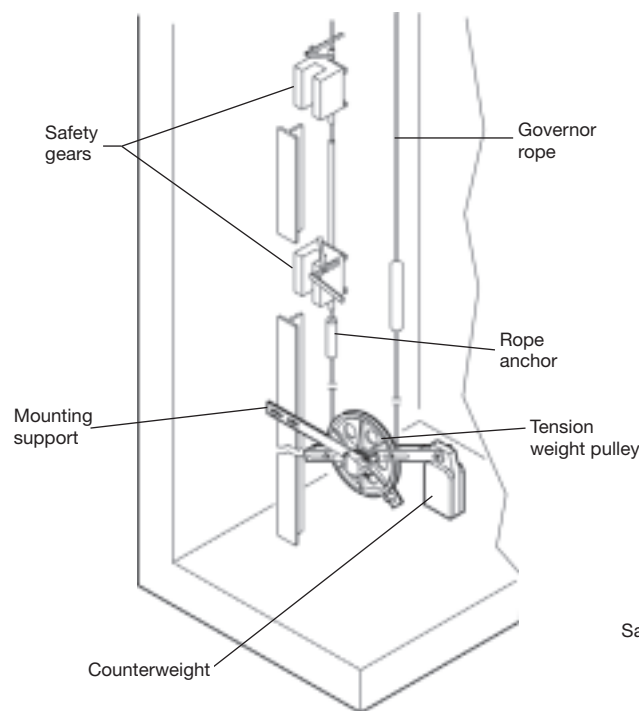

Fig. 1
- in no case, the counterweight must touch the floor (fig. 1 and 2), otherwise, the function of the overspeed governor is put out of operation;
- Supply the first rope-end with the rope-anchor (fig. 1 and 2) and attach it to the safety gear.